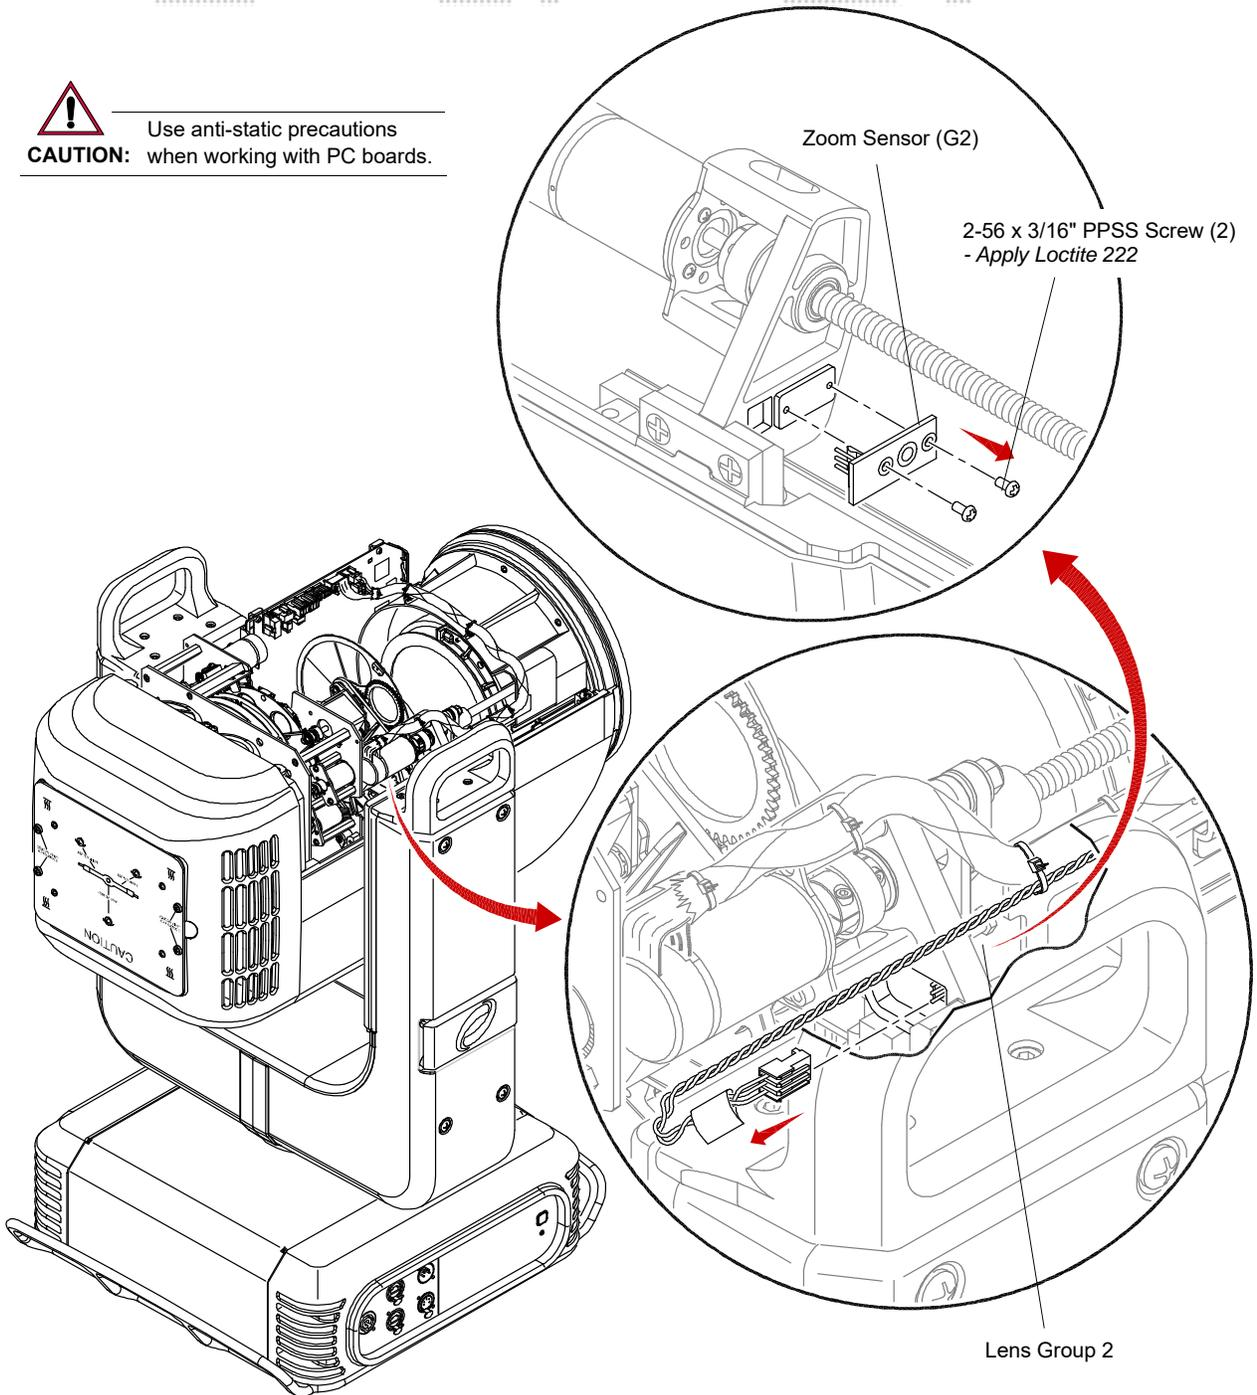

Figure 3-32: Removing Zoom Sensor 2
- b. At Zoom Sensor, disconnect cable from header (**Figure 3-32**).